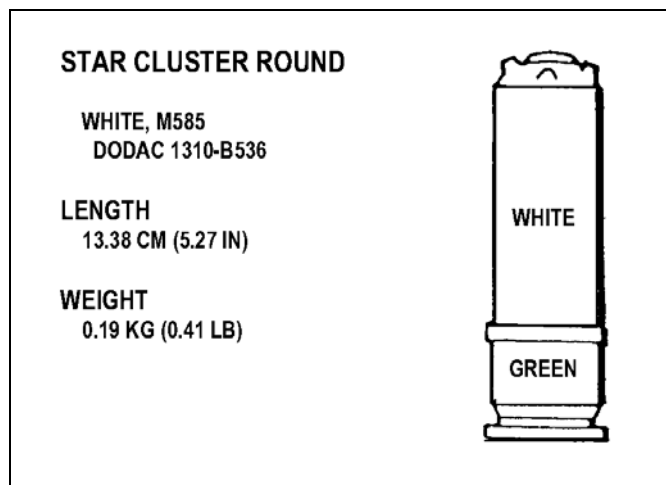

Figure 3-13. White star cluster round.
(4) *White Star Cluster Round.* This round is white impact or bar aluminum alloy with black markings (Figure 3-13). The attached plastic ogive has five raised dots for night identification. The round is used for illumination or signals. It is lighter and more accurate than comparable handheld signal rounds. The individual stars burn for about 7 seconds during free fall.